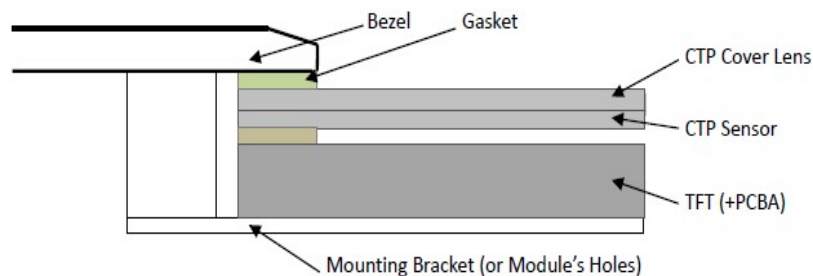

Figure 1
9.1 Bezel Mounting (Figure 1)
9.1 面框安装（附图1）